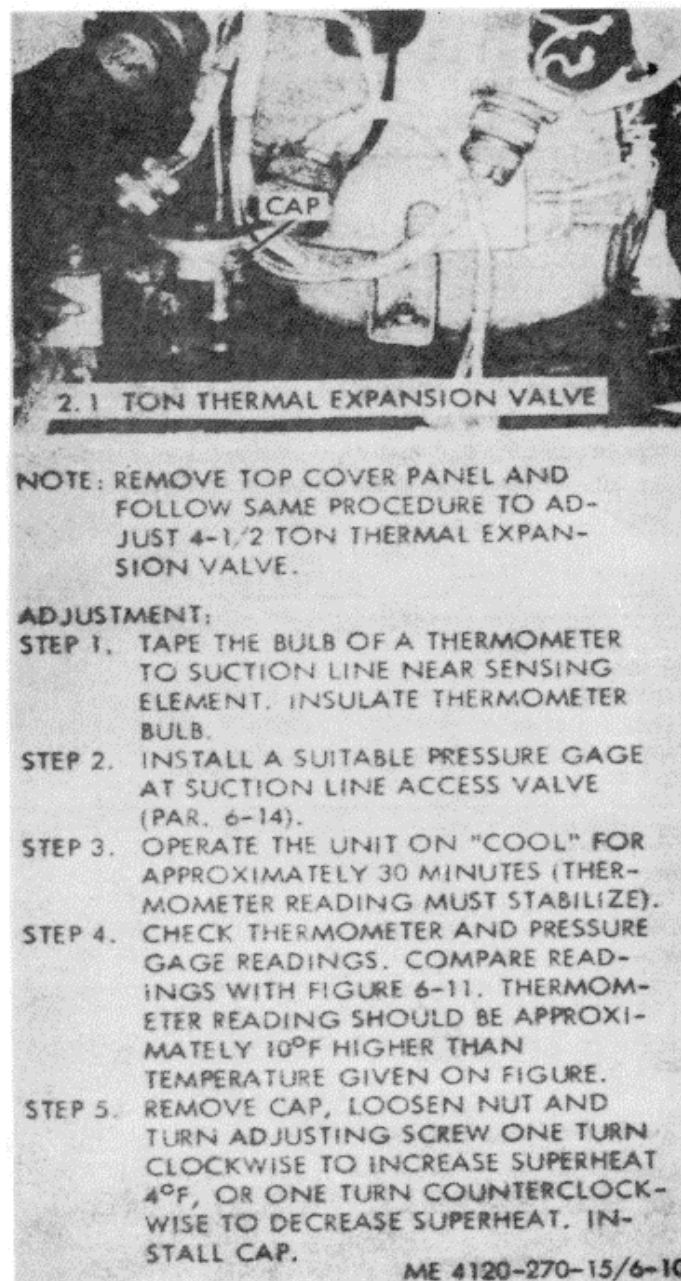

Figure 6-10. Thermal Expansion valve superheat adjustment
b. *Adjustment.* Refer to figures 6-10 and 6-11 and check and adjust the superheat setting of the 4 1/2-ton thermal expansion valve. The 2.1 ton thermal expansion valve adjusts in the same manner.
(1) Stop the air conditioner and allow the suction line to warm up to ambient temperature. Remove the sensing bulb from its location against the suction line and place in an ice-water bath (32°F).
(2) Start the air conditioner, remove the sensing bulb from the ice-water bath and warm by hand while feeling the suction line. If the suction line temperature drops, the valve is operating correctly. Stop air conditioner and reinstall the sensing bulb.
(3) If there is little or no change in suction line temperature, the valve is defective and must be replaced.